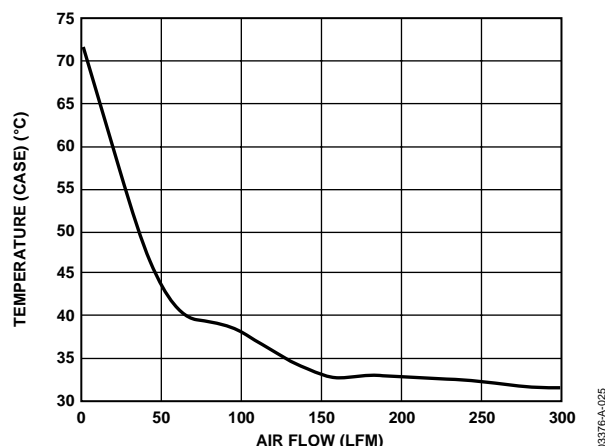

Figure 18. Temperature (Case) vs. Air Flow (Ambient)
- The unit rises to ~72°C (t_C) on the heat sink in still air (0 linear feet per minute (LFM)). The minimum recommended air flow is 100 linear feet per minute (LFM) in either direction across the heat sink (see Figure 18).